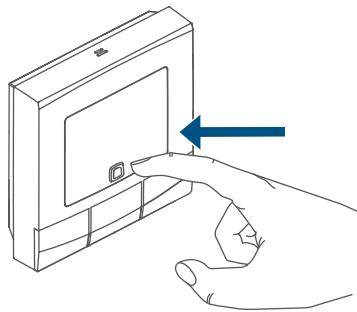

Figure 6
- Select the menu item "Add device" (see figure 6).
- Open the battery compartment (G) using a slotted screwdriver to loosen the wall mounting plate (*→ see figure*).